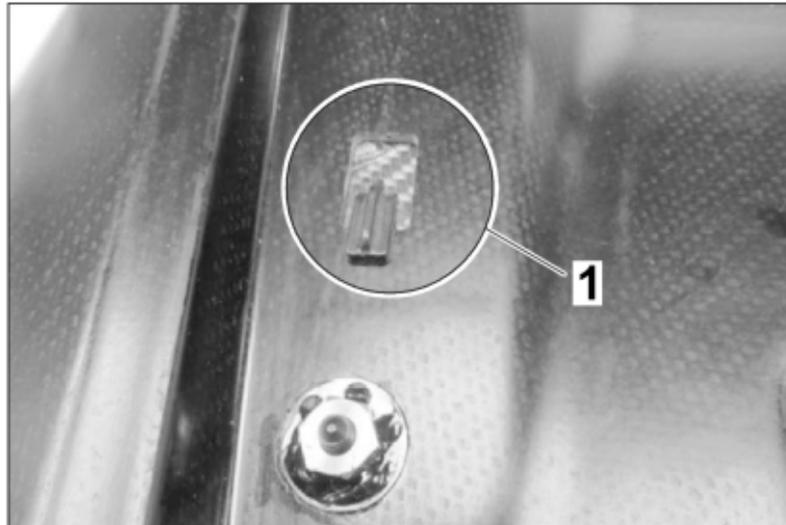

Figure 62
33. – Place the new trunk lid on the hinges. Check That the retaining lugs on the hinges snap into the recesses in the rear cover ⇒ Figure 62 -1-.